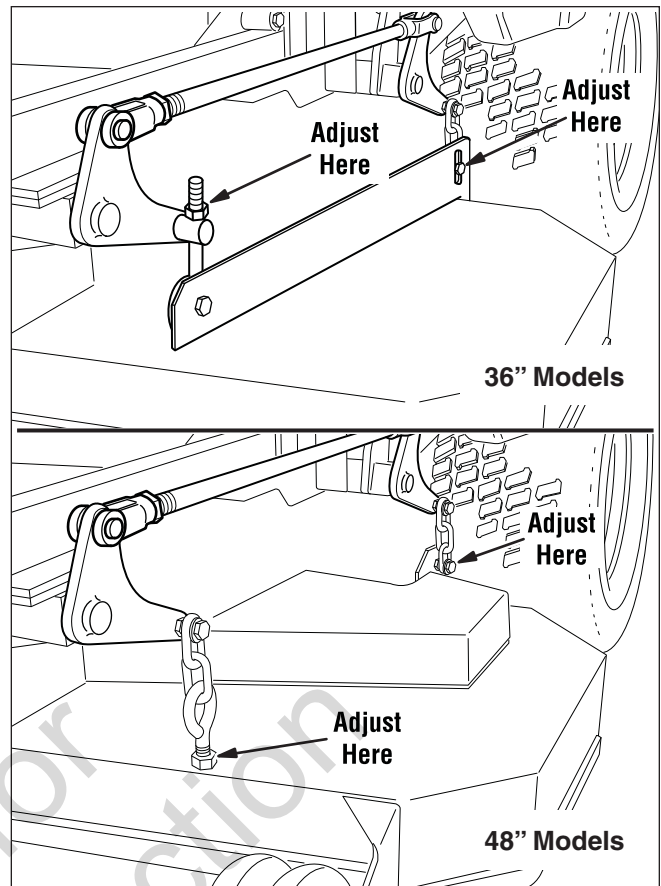

Figure 39. Hanger Chain Adjustment
48" Models: Adjust the front eyebolts until the chains are tight and the deck is still resting on the 2 x 4's. Tighten the jam nuts. See Figure 39.
5. Loosen the nuts and allow the rear of the deck to rest on the 2 x 4's and 1/4" spacers. Slide the chains down in the slots until the chains are tight and tighten the nuts. See Figure 39.
4. Adjust the front eyebolts until the chains are tight and the deck is still resting on the 2 x 4's. Tighten the jam nuts. See Figure 39.
5. Loosen the nuts and allow the rear of the deck to rest on the 2 x 4's. Slide the chains down in the slots until the chains are tight and tighten the nuts. See Figure 39.